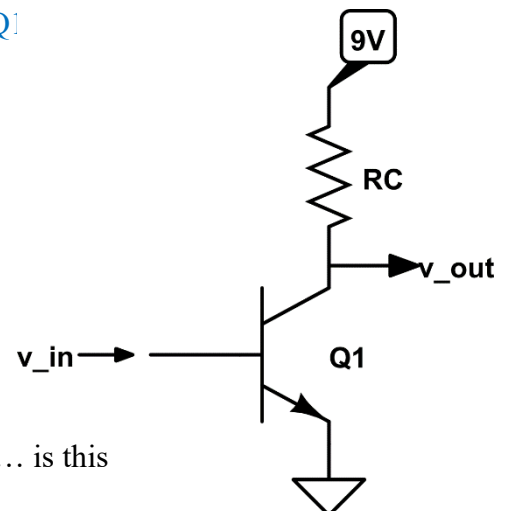

Fig 1:
Fig 1 shows the basic structure of a voltage amplifier circuit. In principle, since $I_c = \beta I_B \rightarrow V_{out} = V_{CC} - I_c R_C$ this is all you need to crack this lab assignment!
- 3) **What should V_E be, if it is to be?** Is it OK to connect Q1-E terminal directly to GND as shown in Fig 1? Why not?